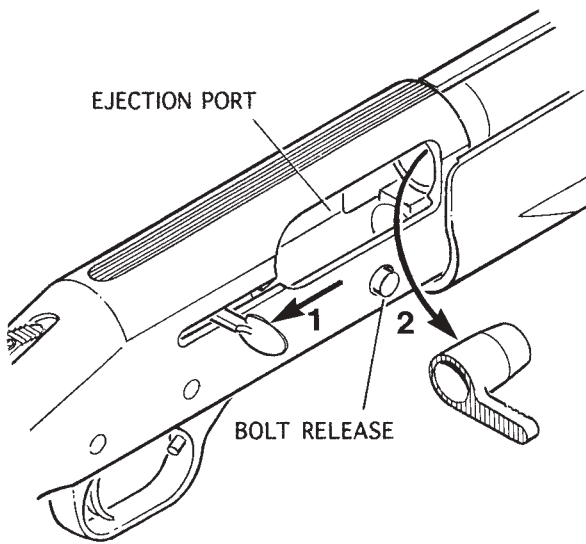

Figure 4
1. With the safety button fully rearward in the "ON" position, hold the shotgun in your left hand by the forearm, and grasp the operating handle with your right hand (Figure 4).
Keep fingers clear of operating handle and ejection port when closing action. (Figure 4)
With safety fully rearward in the "ON" (SAFE) position, and the shotgun pointed in a safe direction, press bolt release until action releases (Figure 4).
Open the action by pulling the operating handle completely rearward until it locks in the open position. (See “**TO LOCK ACTION OPEN**”, Figure 4)
Keep fingers clear of operating handle and ejection port when closing action (Figure 4).
3. With safety button fully rearward in the "ON" (SAFE) position, and the muzzle pointed in a safe direction, press bolt release until action releases (Figure 4).
3. While holding the elevator down with your thumb, press the bolt release (Figure 4). This will release one shell from the magazine tube under spring pressure.